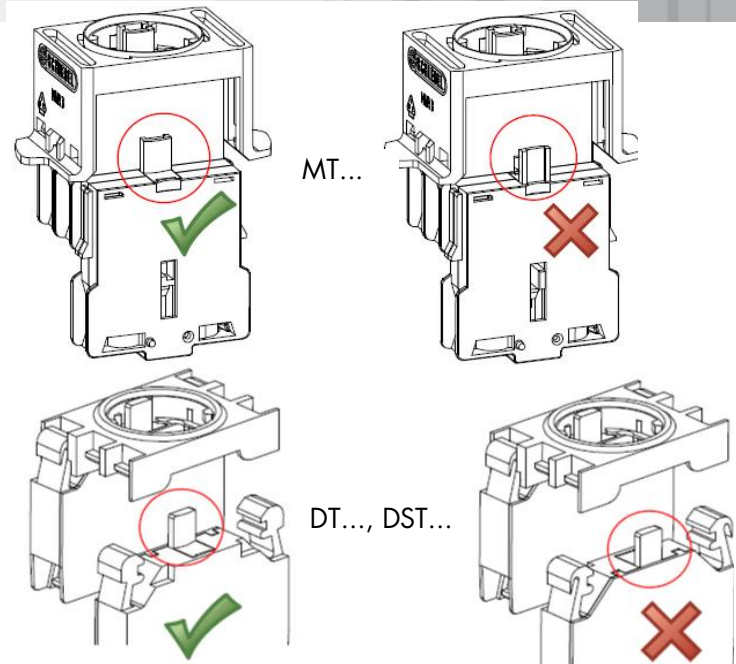

Fig. 1: Correct assembly of the modular contact blocks MT..., DT..., DST...
- 6) Modular contact blocks (MT... DT..., DST...) must first be correctly aligned and snapped into a module holder before snap-fitting them to the actuator (Fig 1).